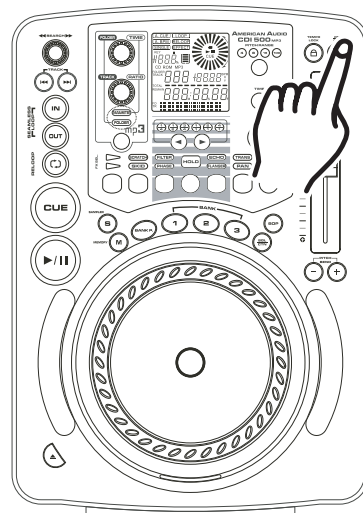
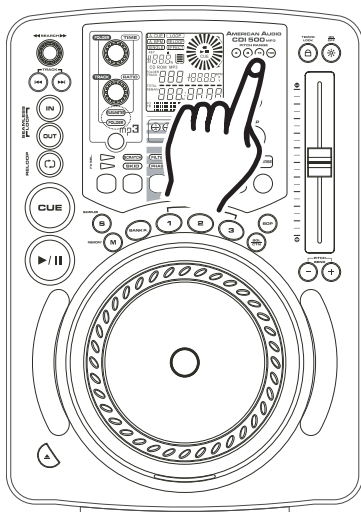

Figure 38
Figure 40
**Adjusting the PITCH SLIDER'S RANGE (7):** You may change the PITCH SLIDER'S (7) operating range at any time. To change the operating range be sure the pitch function is turned on, see figure 38. The pitch percentage range can be changed between +/-4%, +/-8%, +/-16%, and +/- 100%. 4% will allow the least amount of pitch manipulation and 100% will allow the most amount of pitch manipulation. To adjust the different ranges, press the PITCH ON/OFF BUTTON (3) and tap on the PITCH RANGE BUTTON (1) until your desired value is reached, see figure 40.